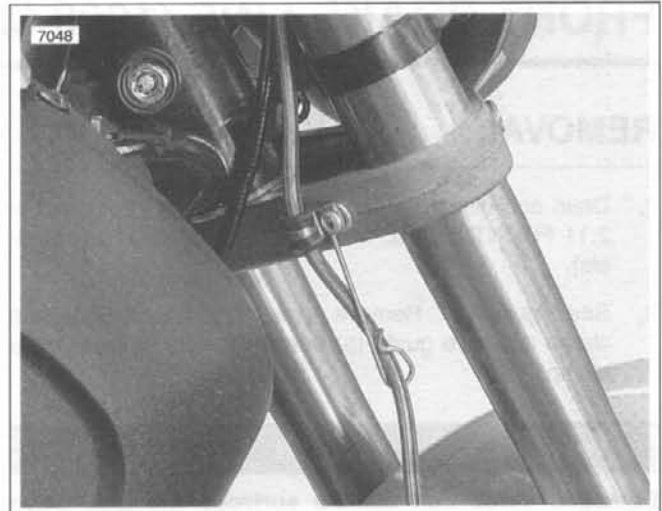

Figure 2-42. Lower Triple Clamp
2. See Figure 2-42. From the master cylinder, the brake line runs downward in front of the right handlebar, where it turns inboard at the upper triple clamp. Loosely install clamp and wire guide (5) with screw (4) to attach front brake line clamp to right side of lower triple clamp. Route brake line through wire guide as shown in Figure 2-42.
4. See Figure 2-42. Tighten clamp screw on lower triple clamp to 30-35 in-lbs (3.4-4.0 Nm).